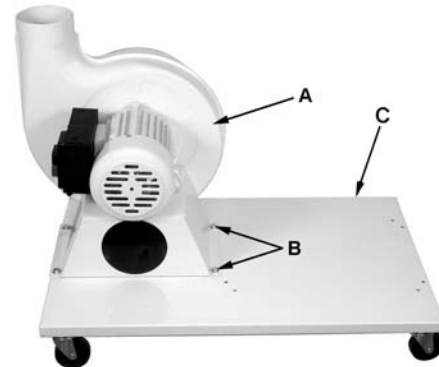

Figure 2
1. Install *four* casters to the underside of the base as pictured in Fig. 2.
Referring to Figure 2: